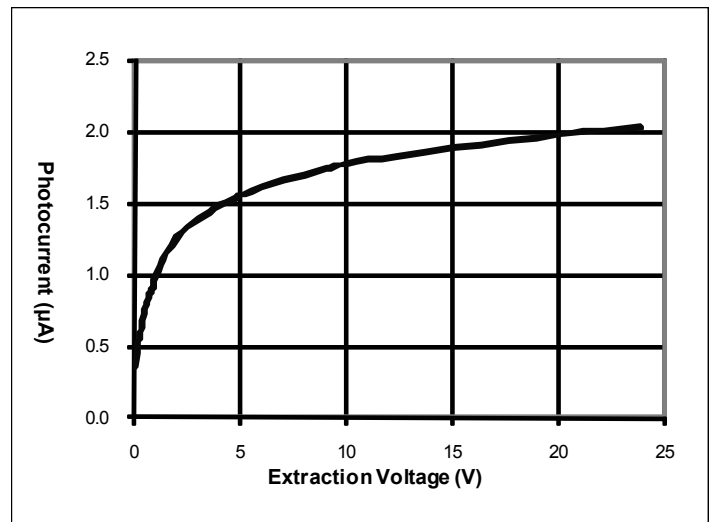

Figure 10
- A typical characteristic curve is shown in *Figure 10*. It is clear from the form of the curve that the saturation voltage is not well defined. However, a space charge-dominated region and a saturation-dominated region can be clearly identified, with the transition occurring at approximately 5V extraction voltage in the example shown. This can be taken as the saturation voltage.